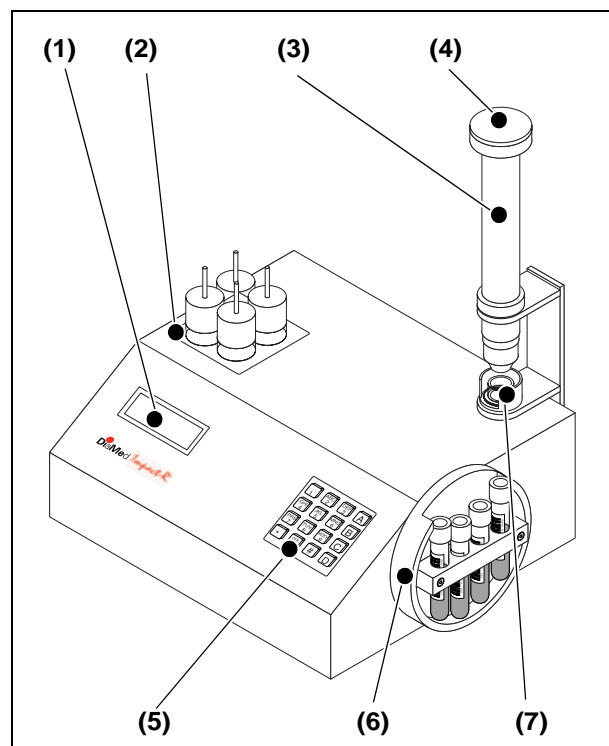

Fig. 3-1: General view
- A. Connect the Camera / Microscope module (CMM) to the "Impact-R" device back panel by using the supplied screws (see Figure 3-1).